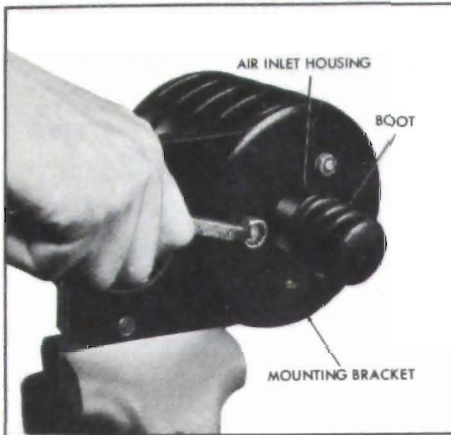

Figure 9-25—Removing Mounting Bracket Assembly
1. Remove the three attaching nuts and lock washers and remove the mounting bracket assembly from the power unit (Figure 9-25).